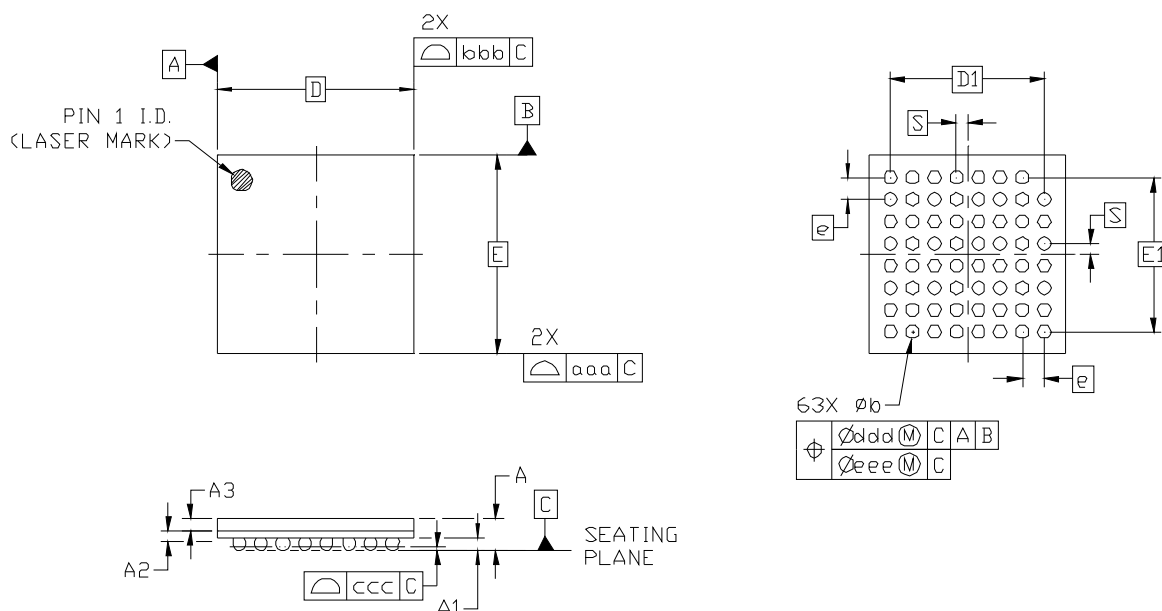

Figure 12. 63-Ball Plastic Ball Grid Array (PBGA)
Figure 12 illustrates the package details for the Si5321. Table 11 lists the values for the dimensions shown in the illustration.
- Updated Figure 12, "63-Ball Plastic Ball Grid Array (PBGA)," on page 31.